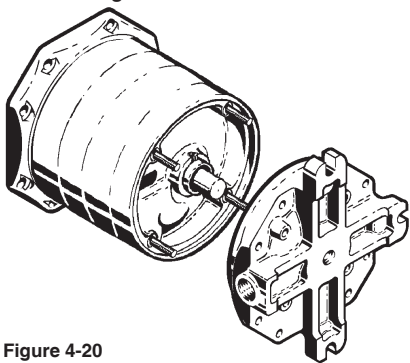

Figure 4-20
17. Install one (1) "O"Ring (#8) on each of the four Guide Rods (#18)
- c. With the "O"Ring facing the last channel ring, slide the Outlet Cover (#2) over the Guide Rods. The outlet port should be oriented 180° from the inlet port on close coupled units. The outlet port should be oriented on the same side as the inlet port on horizontal units. Push on firmly until the "O"Ring fits inside the lip of the channel ring. Refer to figure 4-20.
22. Install one (1) "O"Ring (#8) on each of the four Guide Rods (#18)
- With the "O"Ring facing the last channel ring, slide the Outlet Cover (#2) over the Guide Rods. The outlet port should be oriented 180° from the inlet port on close coupled units. The outlet port should be oriented on the same side as the inlet port on horizontal units. Push on firmly until the "O"Ring fits inside the lip of the channel ring. Refer to Figure 4-20.
25. Insert the eight (8) Thru Bolts (#19) through the holes in the outlet cover and the inlet cover. Thread one (1) Nut (#20) on each of the eight Thru Bolts and on the end of each Guide Rod (#18). Using two 9/16" wrenches or sockets, tighten the bolts/nuts systematically, alternating